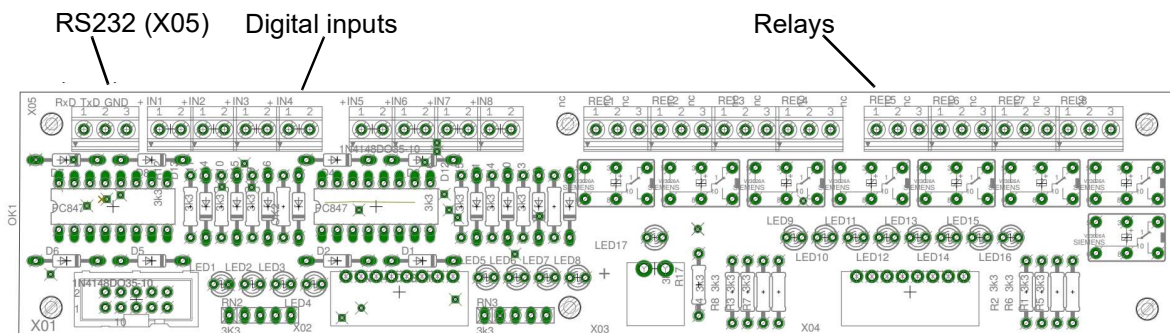

Fig. 21: TRC-Board (complete)
The maximum load for the isolated 0 / 4-20 mA current loops is 500 ohms. The type of analogue output (0-20 mA or 4-20 mA current loop) can be set in the software. If the output is set to 4 - 20 mA, a so-called "live zero feature" can be set in the operating software. This means that instrument errors are output at 0 mA. The conditions of the error display can be programmed individually in the operating software. The analyser mounting plate (Fig. 17, page 29) contains the X101 terminal strip for the analog outputs (Fig. 21, page 34). The individual terminals of X101 are labeled. The first digit stands for the sample flow (PS) and the second for the outgoing parameter.